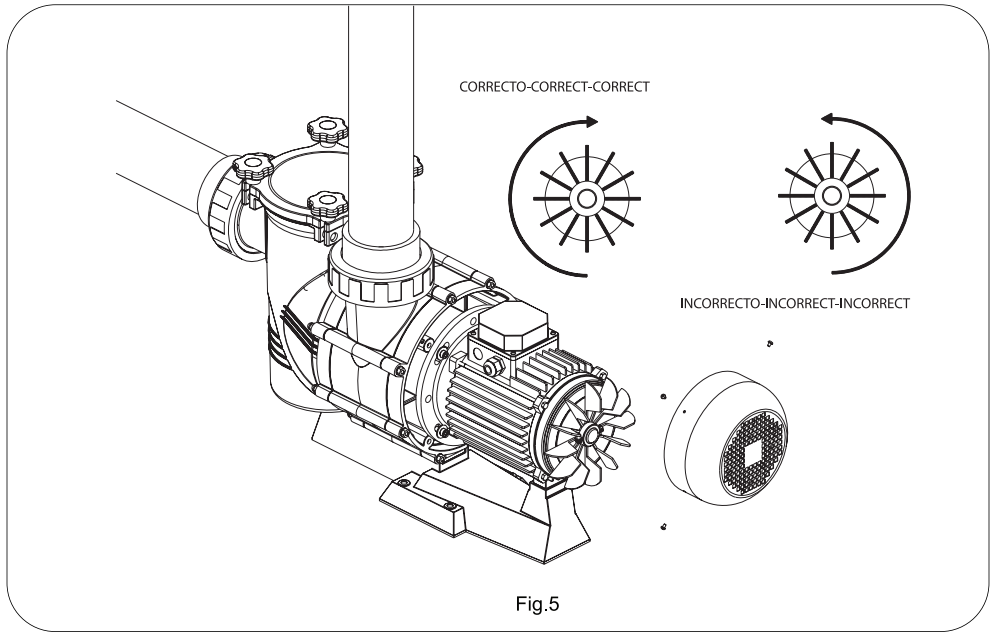

Fig.5
- Check that the rotation sense of the motor is correct, by checking the fan at the back of the motor (fig.5)